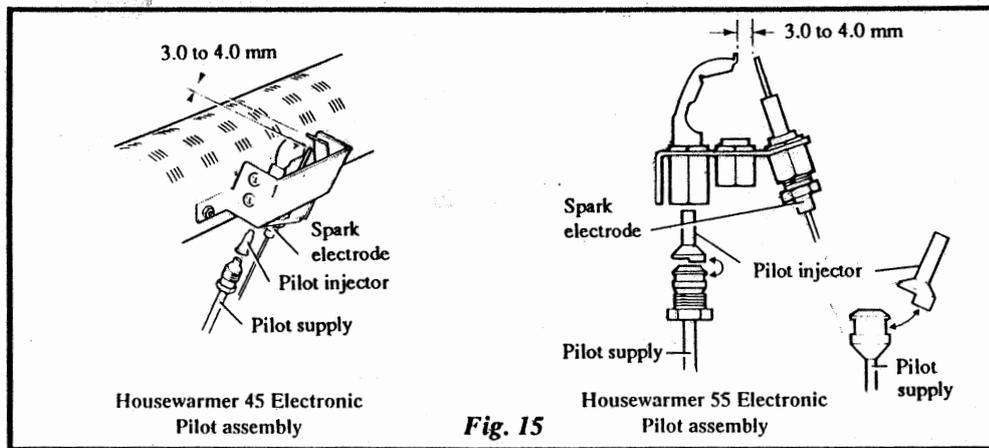

Fig. 15
7. Undo the securing nut and remove the spark electrode from the pilot assembly, see Fig. 15.
8. Undo the tubing nut and disconnect the pilot supply from the pilot assembly and remove the pilot injector, see Fig. 15.
1. Replace the pilot injector (Housewarmer 55 - Ensure that the pilot injector is located over the end of the pilot supply, as shown in Fig. 15 and carefully position it in the pilot burner). Secure the pilot supply in position with the nut previously removed. Check the tightness of the pilot supply connections.
2. Replace the spark electrode and secure in position with the nut previously removed. Check that the spark gap is 3.0 to 4.0 mm, see Fig. 15.
Pilot injector - (Housewarmer 45 - Remove the spark electrode first). Undo the nut, disengage the pilot supply from the pilot assembly and remove the pilot injector. Replace the pilot injector (Housewarmer 55 - Ensure that the pilot injector is located over the end of the pilot supply, as shown in Fig. 15 and carefully position it in the pilot burner). Secure the pilot supply in position with the nut previously removed. (Housewarmer 45 - Replace the spark electrode).
Pilot burner - Remove the spark electrode, pilot supply and pilot injector as described above. Remove the two screws securing the pilot burner to the mounting bracket and replace with a new pilot burner. Replace the pilot injector (Housewarmer 55 - Ensure that the pilot injector is located over the end of the pilot supply, as shown in Fig. 15 and carefully position it in the pilot burner). Secure the pilot supply in position with the nut previously removed and replace the spark electrode.
2. Check that the spark gap is 3.0 to 4.0 mm, see Fig. 15.